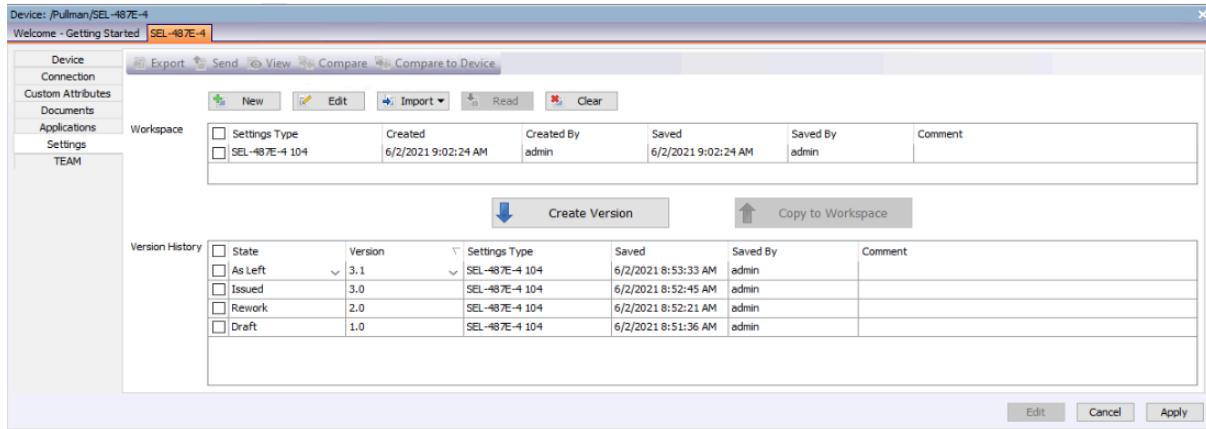

Figure 2.26 Device Settings Tab in Device Manager
Step 15. Select **Import Settings** to associate previously generated settings with the device (see *Figure 2.26*).